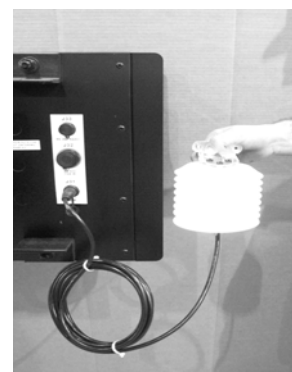

Figure 5: Quick-connect Cable
1. The temperature sensor is provided with a 25-foot weather-resistant cable. This cable does not need to be in conduit. The sensor connects to the display at J31. Refer to **Figure 5** for the location of the quick-connect plug.